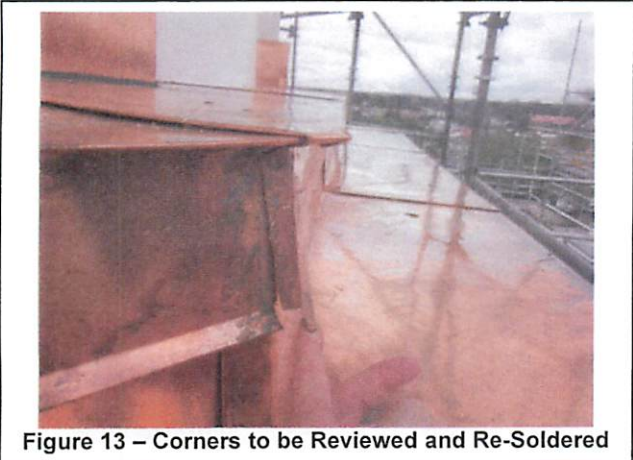

Figure 13 – Corners to be Reviewed and Re-Soldered
- 18 - All soldered vertical edge corner joints (Upper and Lower Steps) will be reviewed and re-soldered if required. Some joints had come apart at time of observation. **Figure 13**